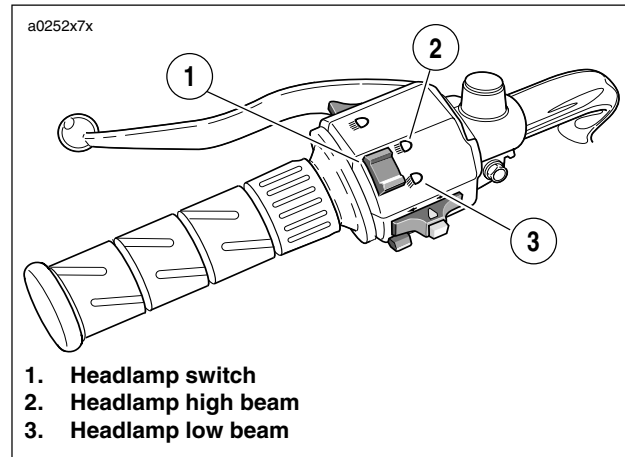

Figure 7-64. Headlamp Switch
5. See Figure 7-64. Check headlamp for proper operation.